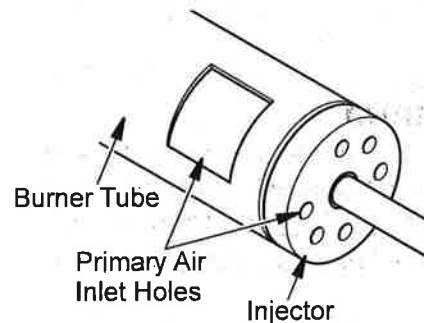

Figure 29 - Burner and Injector Holder
2. Inspect burner, pilot and primary air inlet holes on injector for dust and dirt (see Figure 29).